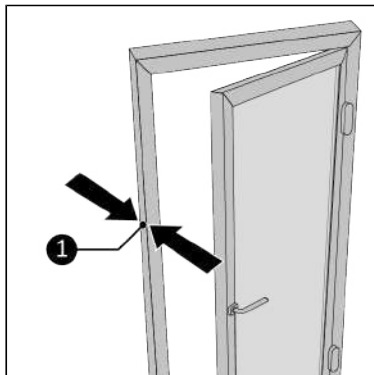

Figure 67.
2. Measure the width of the fixed part of the window frame (Figure 67, pos. 1).